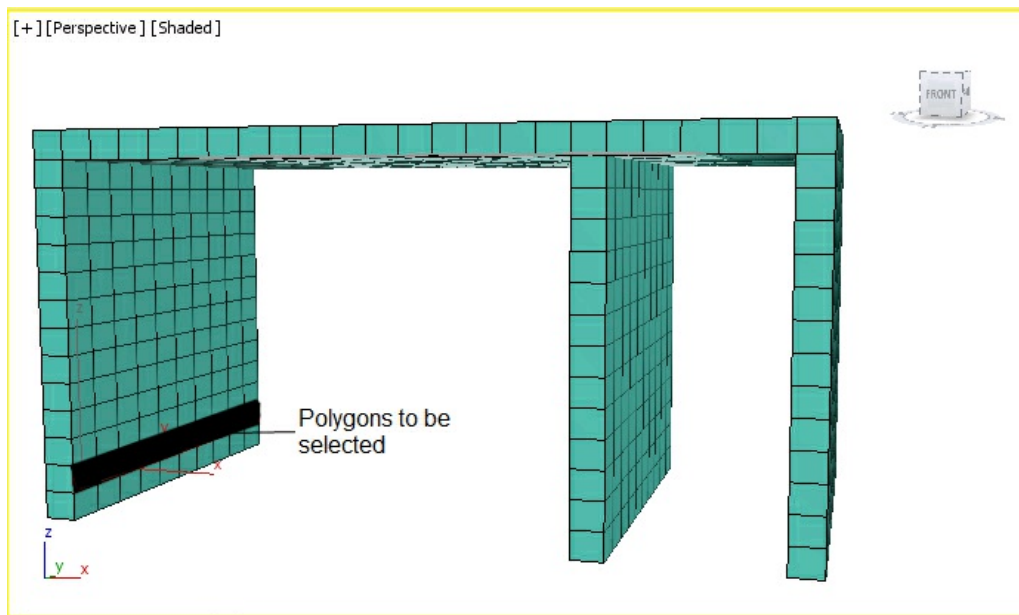

Figure 9-67 The selected polygons of computer table
5. Select the **Polygon** sub-object level. Next, select the polygons, as shown in Figure 9-67.